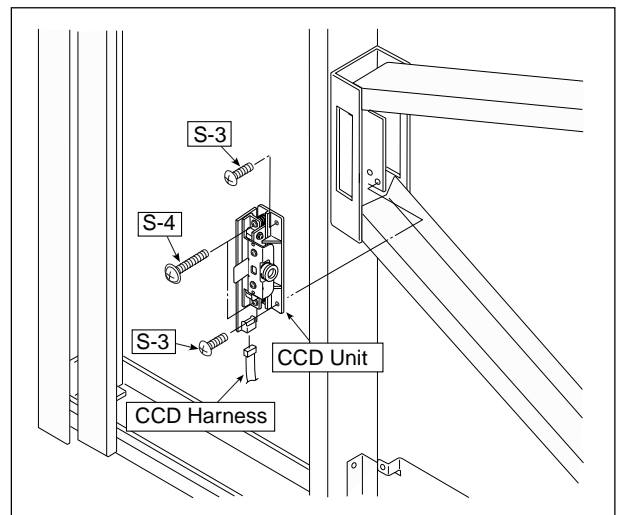

Fig. 5
- 3) Remove the CCD Unit. (See Fig. 5.)
1. Remove the "S-3" screws shown in Fig. 5.
2. Remove the "S-4" screws shown in Fig. 5 and then remove the CCD Unit.
- Adjust the tension of a Timing Belt when installing the Sheet Motor Unit. (See Fig. 5. Adjustment)